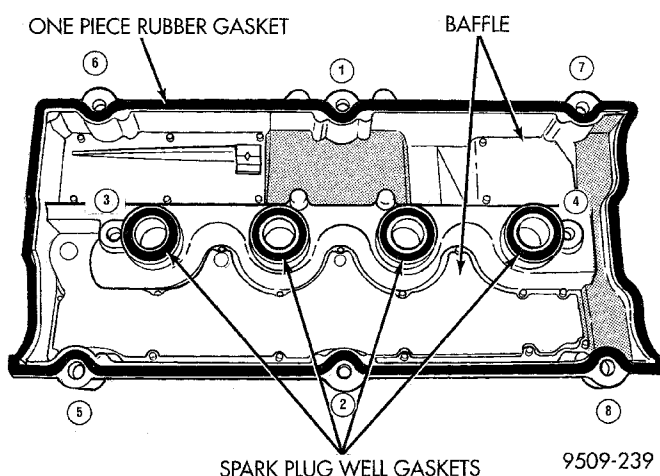

Fig. 21 Cylinder Head Cover and Gasket
(2) Remove the cylinder head cover fasteners (Fig. 21).
(3) Remove cylinder head cover from cylinder head.
- (2) Apply Mopar Silicone Rubber Adhesive Sealant at the camshaft cap corners and at the top edges of the 1/2 round seal.
- (3) Install cylinder head cover assembly to head and tighten fasteners in sequence shown in (Fig. 21). Using the 3 step torque method: